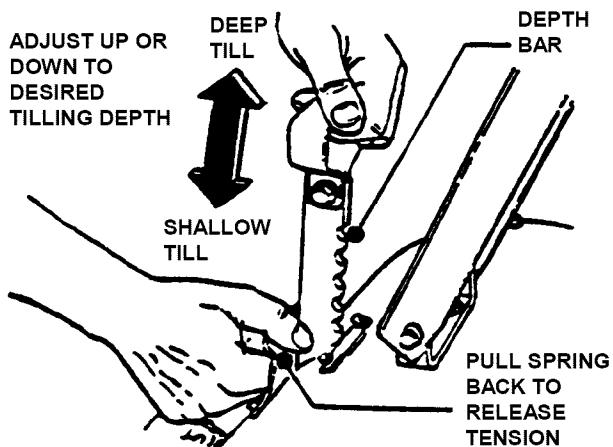

FIGURE 8
2.6.1 FORWARD/REVERSE: To transport the Tiller to a new tilling site using its own power, raise the tines to clear lawn and paved surfaces to prevent gouging. Release the WHEEL and TINE CONTROL BAIL and lift the rear of the Tiller to take the weight off the DEPTH BAR (see Figure 8), then push the DEPTH BAR downward into notch setting that allows the tines to clear the ground surface. Place the WHEEL and TINE SHIFT LEVER in FWD or REV. Pull the WHEEL and TINE CONTROL BAIL back against the handlebar to engage the wheel drive and transport the unit.
STEP 2: Set DEPTH BAR to desired position. Highest position is deepest depth. See Figure 8.